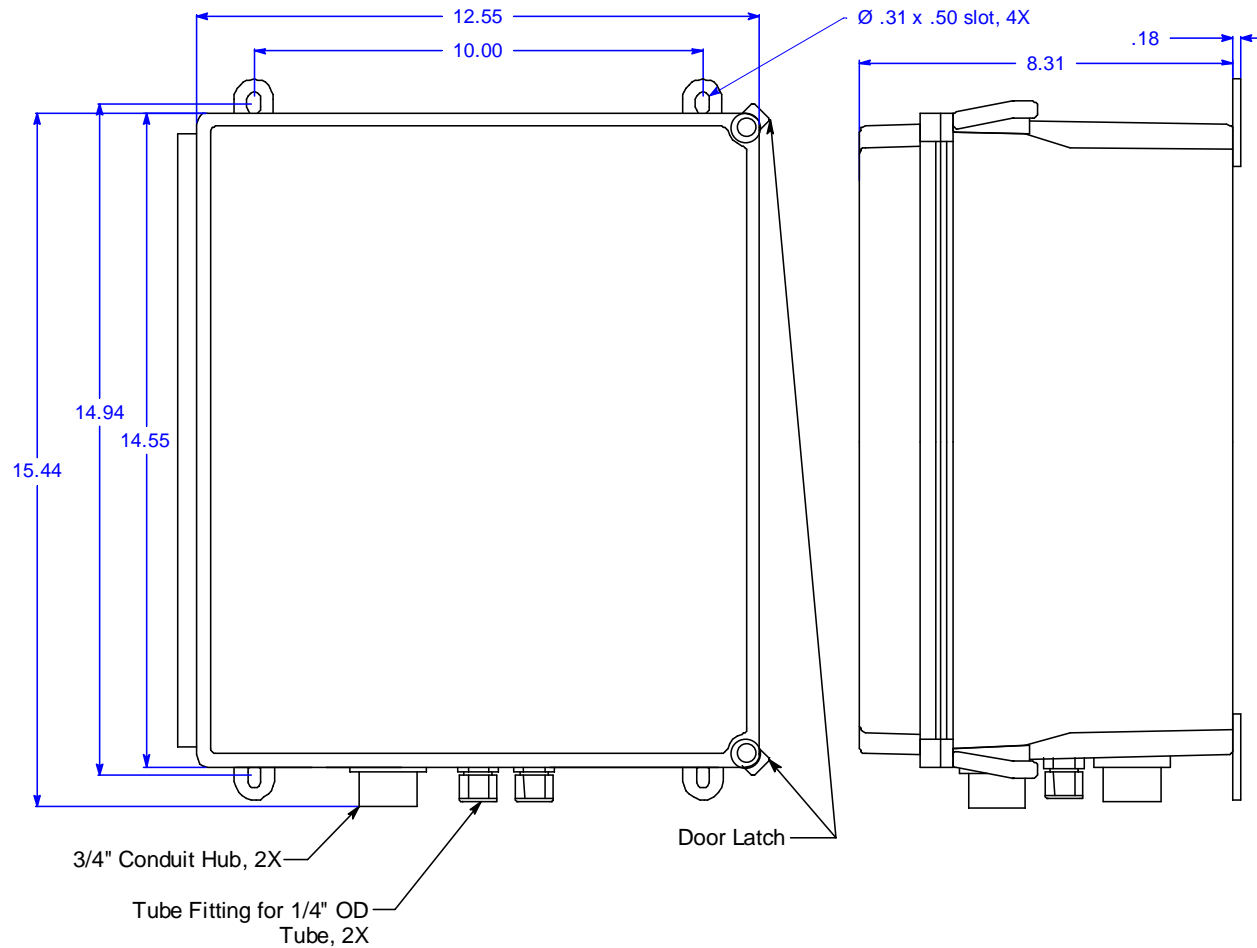

Figure 6: Outline and Mounting Dimensions
3. Slightly loosen the screw that secures one of the mounting feet to the housing, then rotate the mounting foot 180 degrees (see Figure 6).